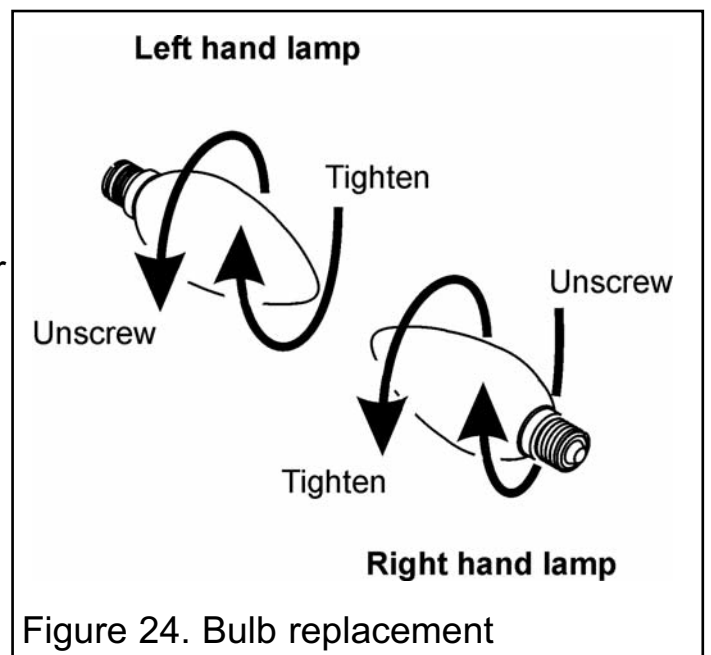

Figure 24. Bulb replacement
4. Replace the lamp/s (See figure 24).